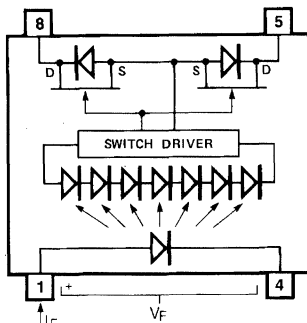
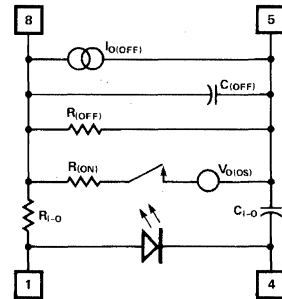

Figure 2. Circuit Diagram of HSSR-8200.
Figure 3. Approximate Equivalent Circuit of HSSR-8200.
Some features of the SSR from Hewlett-Packard, the HSSR-8200, can be described relative to the circuit diagram in Figure 2 and the approximate equivalent circuit of Figure 3.
Next, consider the control side. Polarity is defined in Figure 2.
In the energized condition, optical radiation from the LED is converted by a photodiode array into sufficient voltage and current to operate the SWITCH DRIVER (Fig. 2) and also to drive the gate-source electrodes of the two FETs. It is important to notice here that all the power to operate the switch comes from the photodiode array—no power is required from the circuit being operated by the switch.
The contact side appears complicated, but in most applications it is possible to ignore some or all of the extraneous circuit elements. It is therefore worthwhile to give some thought to the equivalent circuit of Figure 3, and check the data sheet values to see if they can indeed be ignored. In many situations the values of $R_{(ON)}$ are so low and $R_{(OFF)}$ so high that they can be ignored, and the same may
Where very low signals are to be switched, $V_O (OS)$ and $I_O (OFF)$ should be considered. With voltage applied to the open contacts, part of the resulting current $I_O (OFF)$ is flowing in $R_O (OFF)$, and part is the reverse current in whichever of the two diodes in the contact circuit (see Figure 2) is reverse biased. When the LED is turned on and the switch closes, the magnitude of $V_O (OS)$ initially rises, then falls as heat from the LED spreads through the contact
Another consideration is the range of circuit currents with which the SSR contacts can be used. At the low end, there is the leakage current, $I_{O(OFF)}$. At the high end, the current may be limited only by the maximum rating of $I_{O(ON)}$, (40 mA for HSSR-8200), or it may be limited by the linearity of $R_{(ON)}$. Notice in Figure 2 that the contact consists of two FETs in anti-series to provide bidirectional symmetry. Across each FET there is a source-to-drain diode. Since each FET has a channel resistance approximately equal to half $R_{(ON)}$,
Between the control side and the contact side are the unavoidable parasitics R_{I-O} and C_{I-O} seen in Figure 3. Having a value of more than a million megohms, R_{I-O} can usually be ignored. C_{I-O} can usually be disregarded with respect to large transient voltages relative to the contact circuit. Transients with sufficient amplitude could couple enough charge through C_{I-O} to cause a temporary improper condition of the contacts. How-